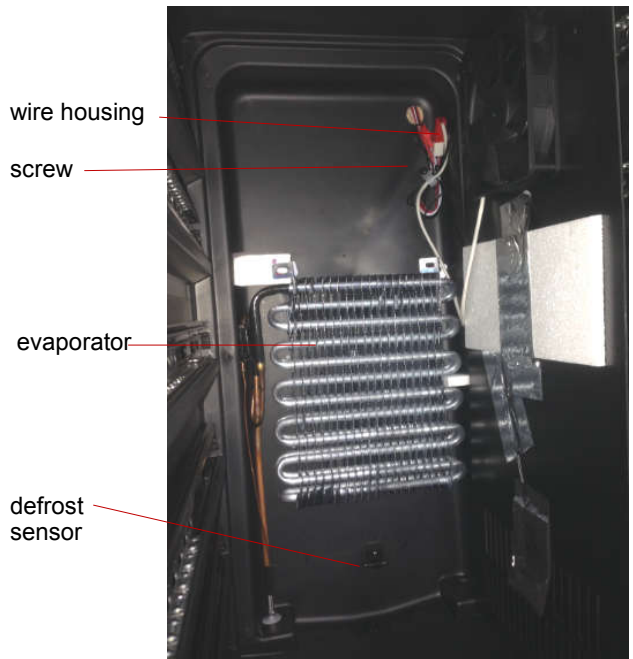

Figure 25
2. Loosen 1 screw. You can replace the sensor & fan. (figure 25)